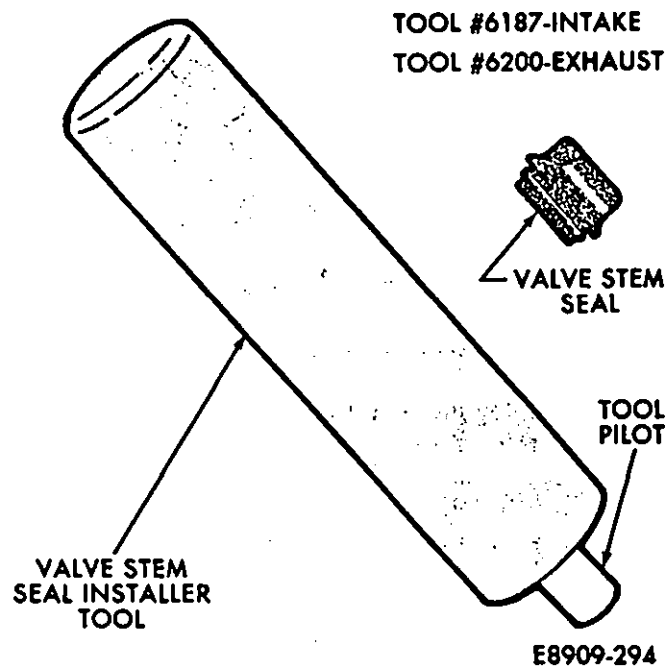

Fig. 5—Valve Stem Installer Tool
(1) Prior to assembling the cylinder head, stick each valve into its appropriate guide and slowly move it in and out. The valve should slide without drag. If a drag is felt, check both the guide and valve stem for burrs.
(2) Using the correct tool, install the valve stem seals. There are two valve stem seal installers. Tool #6187 is silver in color and stamped INTAKE. Tool #6200 is gold in color and stamped EXHAUST (Fig. 5).
(a) Position the seal on the tool pilot (Fig. 5).